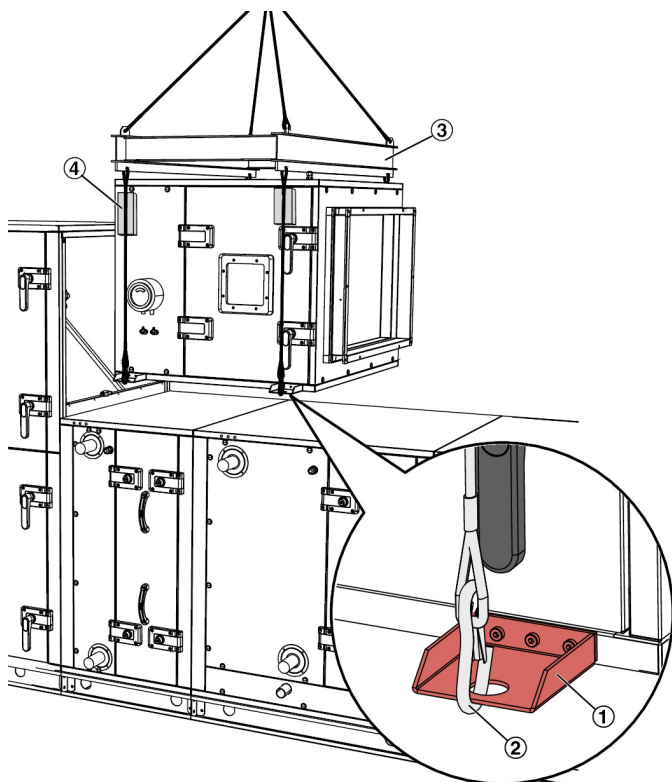

Fig. 6: Travel stop on transport brackets
The number of transport brackets on the AHU casing unit ( Fig. 6 /1) determines the number of lashing points to be used.
1. ▶ Hook slings ( Fig. 6 /2) into transport brackets.
- Spread the slings (wire ropes or chains) near the roof with suitable spreading devices, e.g. a spreader beam ( Fig. 6 /3).
- Ensure that the slings cannot damage the AHU casing unit. Protect the edges of the AHU casing units with wood blocks ( Fig. 6 /4) for example.